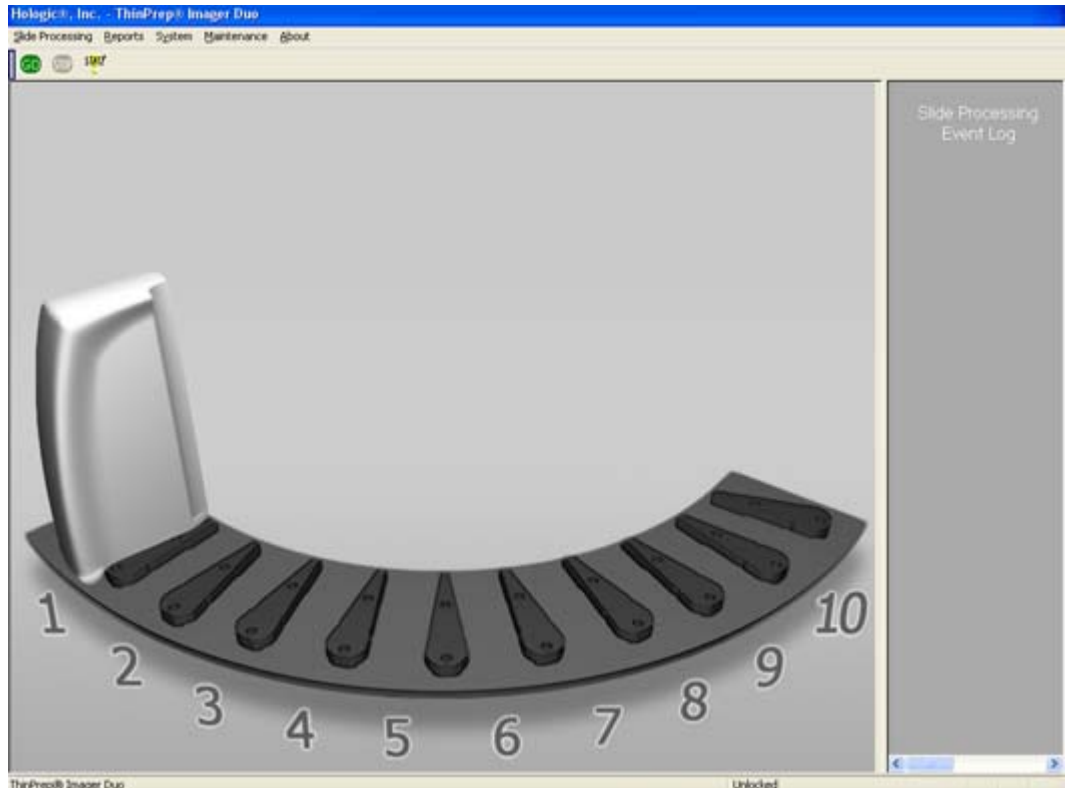

Figure 3-13 Cassette Loaded View on the User Interface
3. Push the cassette forward to seat the base firmly against the divider stops. When it is fully inserted, the cassette engages an optical sensor that detects it is present. An image of the slide cassette appears in the corresponding location on the User Interface. (Refer to Figure 3-13.)